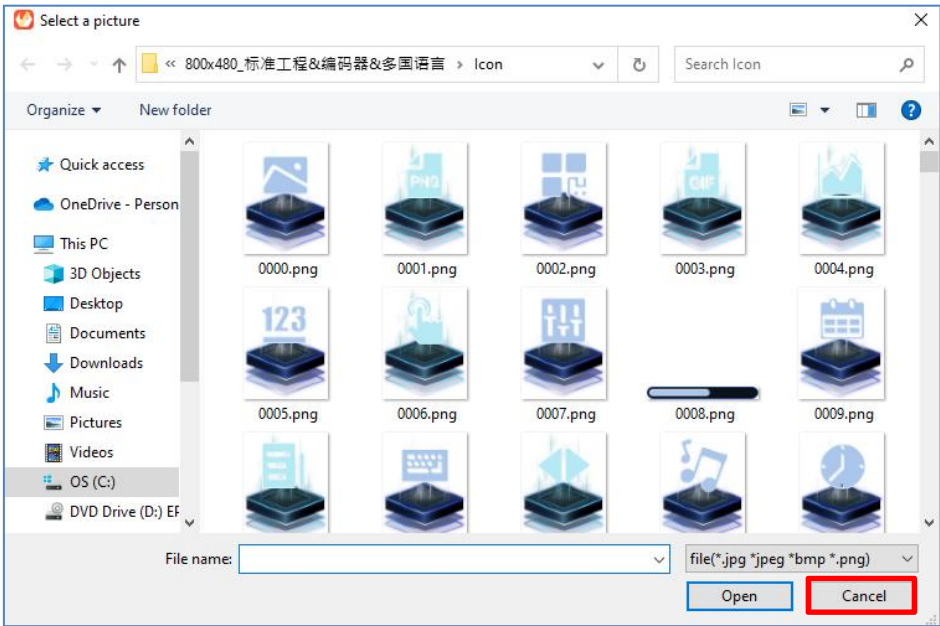

Figure 13-6: File Manager Window
- (2) Double click on the image item, and a file manager window will pop up, as shown in Figure 13-6;
- (3) Click on [Cancel] to close the window;